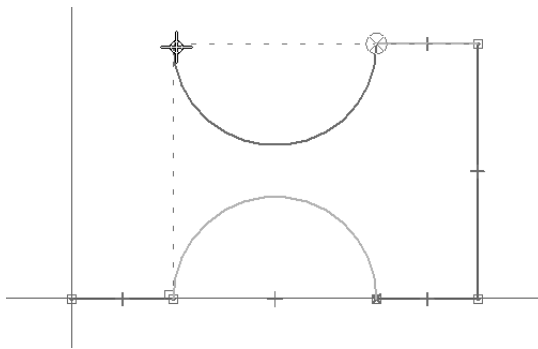

Figure 2-37 Horizontal and vertical dotted lines displayed to define the endpoint of the arc
13. Move the cursor over the lower arc once and then move it toward the left, in line with the upper right horizontal line from where this arc starts. A horizontal dotted line is displayed originating from the upper right horizontal line. At the point where the cursor is vertically in line with the start point of the lower arc, a vertical dotted line appears from the start point of the lower arc, as shown in Figure 2-37.